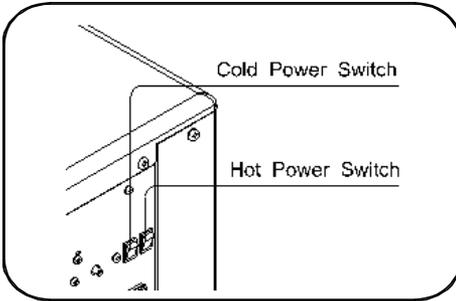

Figure 7a. Hot/Cold Power Switches
- b. Make sure Cold and Hot power switches at back of cooler are OFF before plugging the cooler into 110-volt wall socket. (See Figure 7a)